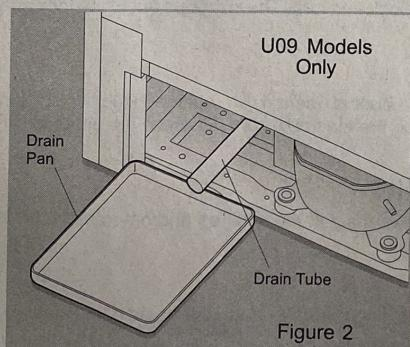
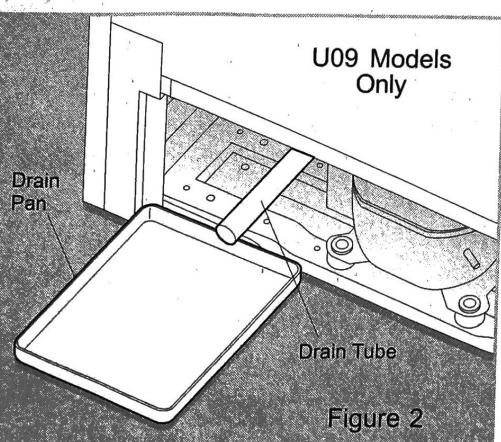
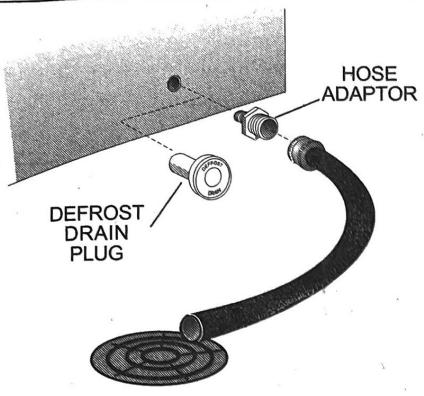

Figure 2
Figure 2
Figure 3
- On chest models with a defrost drain, place a shallow pan or the Divider/Drain Pan (some models) beneath the drain outlet (Figure 2). A  $\frac{1}{2}$  inch garden hose adapter can be used to drain the freezer directly into a floor drain (Figure 3). If your model is not equipped with an adapter, one can be purchased at most hardware stores. Pull out the drain plug inside the freezer, and pull off the outside defrost drain plug (Figure 4). Defrost water will drain out. Check pan occasionally so water does not overflow.
- On **chest models** with a defrost drain, place a shallow pan or the Divider/Drain Pan (some models) beneath the drain outlet (Figure 2). A  $\frac{1}{2}$  inch garden hose adapter can be used to drain the freezer directly into a floor drain (Figure 3). If your model is not equipped with an adapter, one can be purchased at most hardware stores. Pull out the drain plug inside the freezer, and pull off the outside defrost drain plug (Figure 4). Defrost water will drain out. Check pan occasionally so water does not overflow. Replace the drain plugs when defrosting is completed.